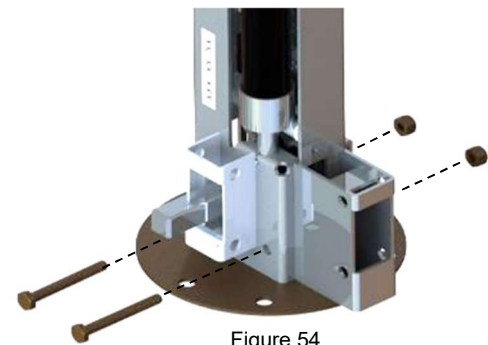

Figure 54
- Use the two 1/4"-20 x 2 1/4" hexagonal bolts, the nylon-insert lock nuts with the appropriate socket wrench spanner to fasten the assembly. **To prevent the mechanism from bending inward, do not overtighten these bolts. Make sure you respect the orientation of the fasteners, as shown.** (Figure 54)